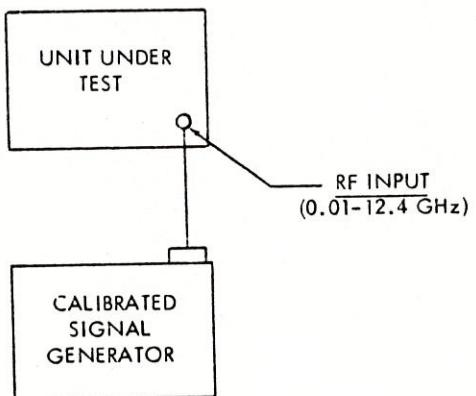

Figure 6-2. Performance Checks with Signal Generator
(1) General
- (a) Connect calibrated signal generator (Item 3) to RF INPUT (see figure 6-2), and set for 400 MHz.
- (1) Connect signal generator (Item 3) at RF INPUT (figure 6-2) and apply 400 MHz signal. Adjust signal level to obtain -40 dB peak amplitude on LOG scale.
- (2) Increase the GENERATOR's OUTPUT level by 40 dB in 10 dB steps, recording display amplitude at each position.
- (3) Reset GENERATOR for -40 dB peak amplitude on LOG SCALE, and step IF ATTEN - dB to 10, 20, and 30, recording display amplitude at each position.
- (4) Signal peak shall shift in 10 dB increments, corresponding to attenuator settings. Deviation at each position shall not exceed ± 2 dB (± 0.2 division).
- (1) Connect calibrated 400 MHz signal generator (Item 3) at RF INPUT (figure 6-2).
- (2) With IF ATTEN - dB all OUT, adjust and note signal generator signal level to obtain amplitude reading of signal peak on screen of 6 divisions.
- (3) Set IF ATTEN - dB to 1 dB, adjust input signal level on signal generator to restore signal peak reading of 6. Record incremental signal level from step 2 of signal generator.
- (4) Repeat step 3 for IF ATTEN - dB settings of 3, 7, 15, 31, and 51.
- (5) Incremental signal level for each step shall be within limits shown on record form.